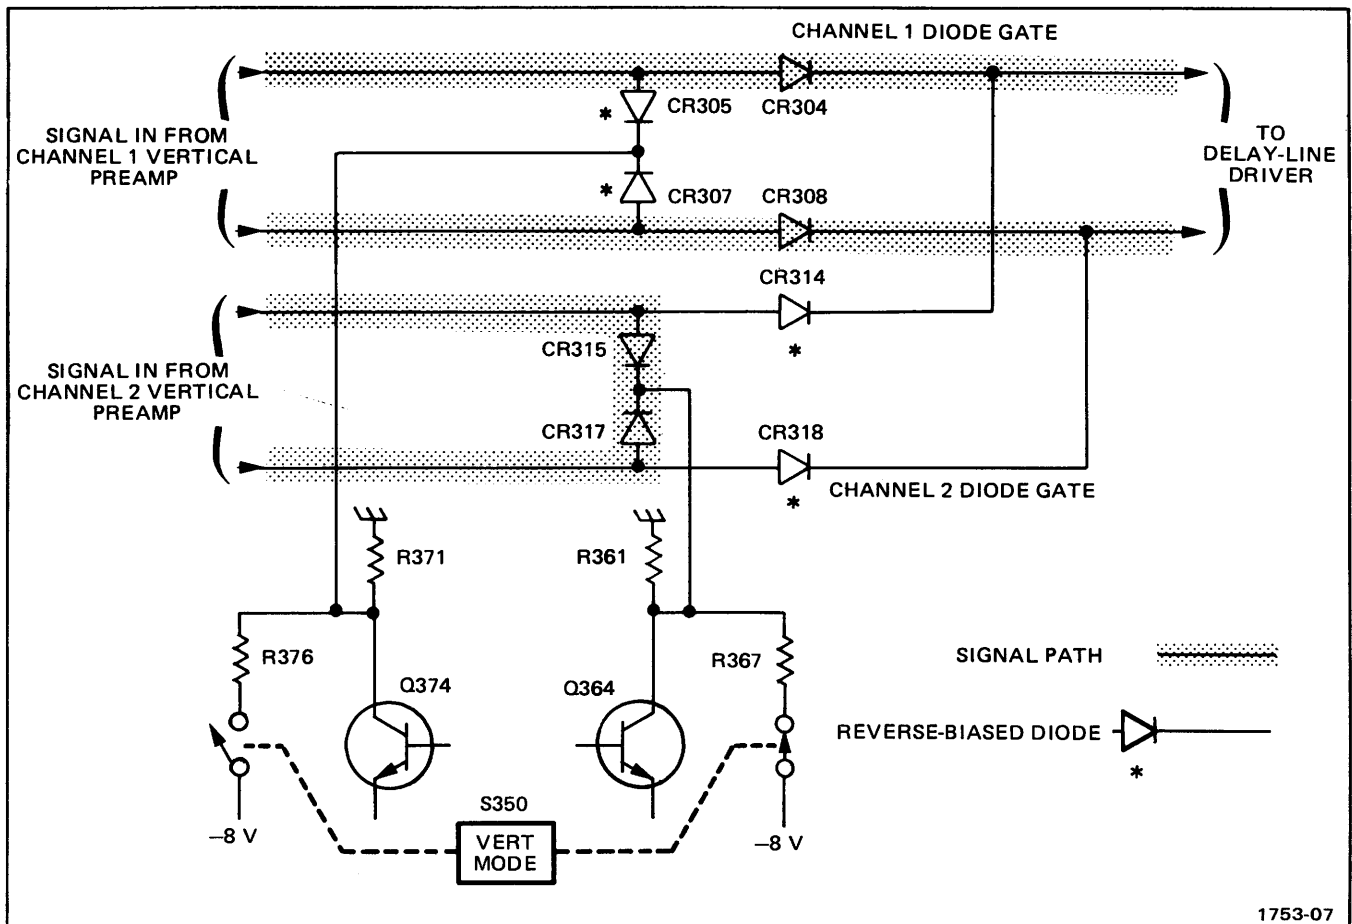

Fig. 3-4. Diode Gate Conditions in Channel 1 Mode.
**Channel 1 Only Display.** When the CH 1 pushbutton is pressed,  $-8$  volts is applied to the junction of CR315-CR317 in the Channel 2 Diode Gate through R367 (see simplified diagram in Fig. 3-4). This forward biases CR315 and CR317 and reverse biases CR314 and CR318. CR314 and CR318 block the Channel 2 signal so it cannot pass to the Delay Line Driver stage. At the same time in the Channel 1 Diode Gate, CR305 and CR307 are connected to  $+5$  volts through R371. CR305 and CR307 are held reverse-biased while CR304 and CR308 are forward biased.